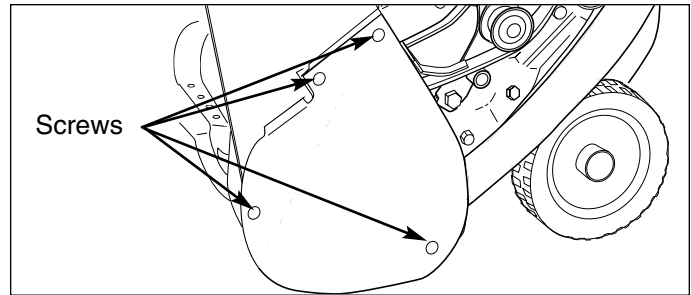

Figure 8. Removing Belt Cover
2. Remove the four screws securing the belt cover (see Figure 8).